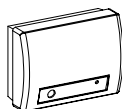

Figure 20.
E. Glass Break Detector MCT-501 (not UL-Listed). An acoustic detector (Fig. 20) equipped with a PowerCode-type transmitter. Since it restores automatically after detection, this unit does not send a restoral message to the control panel.